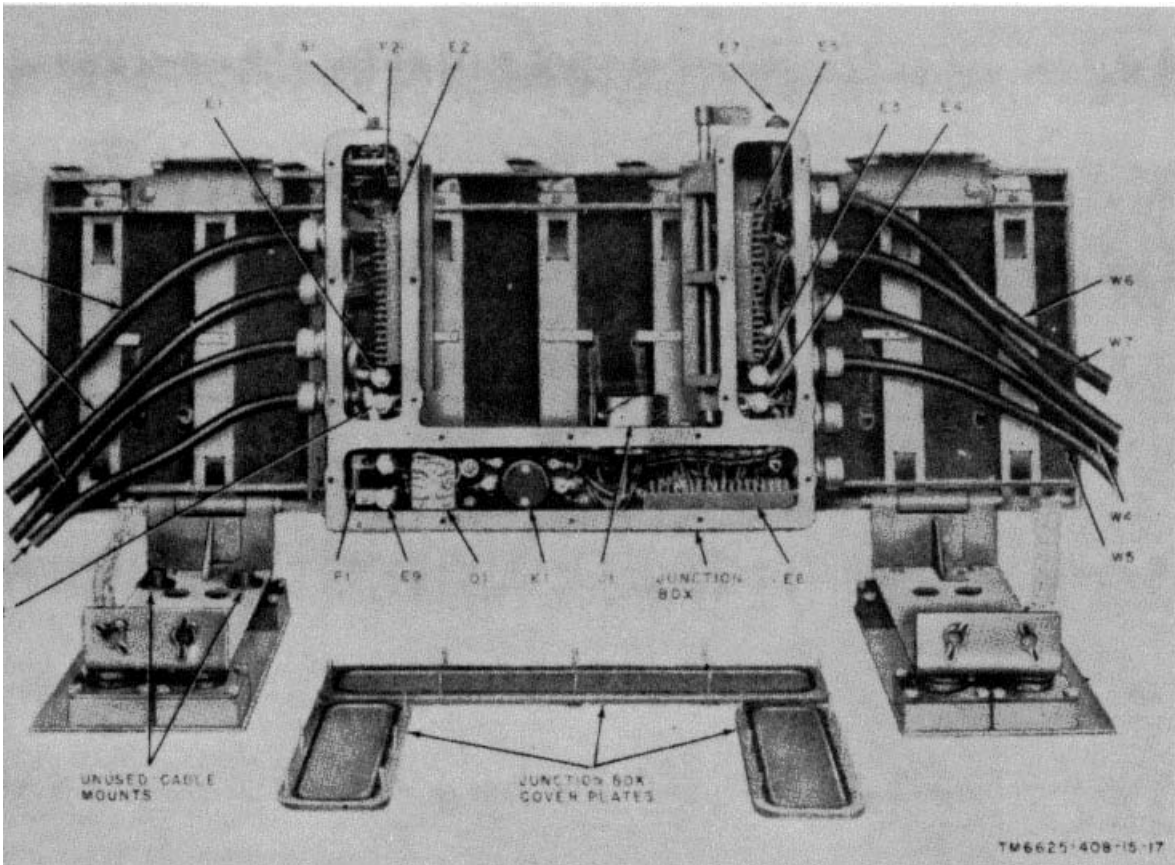

Figure 13. Mounting MT-297/GR, open view.
30. Mounting MT-297/GR (fig. 13)